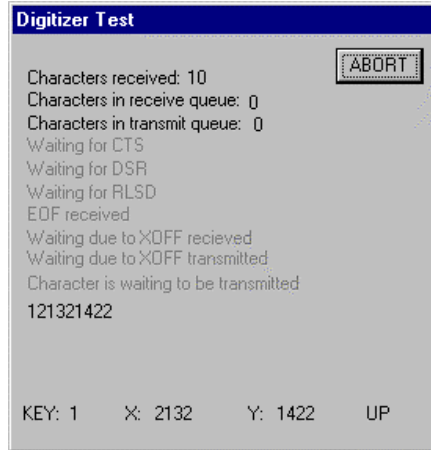

Figure 7.2: Digitizer Test dialog box
7. Press the *Test* button to check that the digitizer is transmitting characters properly. The *Digitizer Test dialog box* shown in Figure 7.2 appears. This dialog box will display characters transmitted from the digitizer. Try pressing a key on the digitizer. If the parameters have been setup correctly a new character string should appear at the bottom of the dialog box whenever a key is pressed on the digitizer keypad.